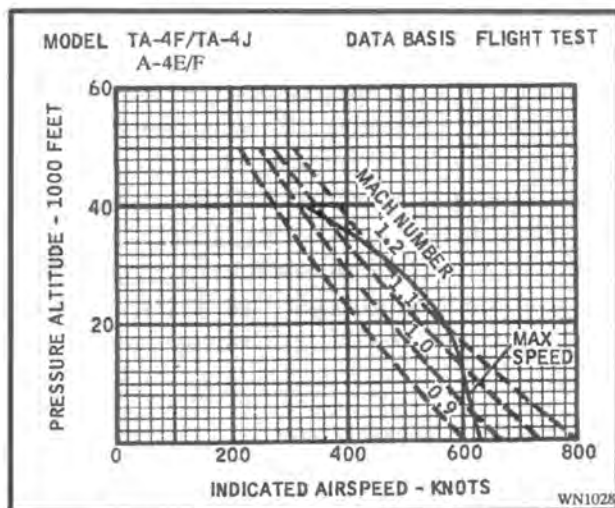

Figure 4-1 Airspeed Limitations
1. With no external stores and with landing gear, flaps, and hook retracted, as shown in Figure 4-1.